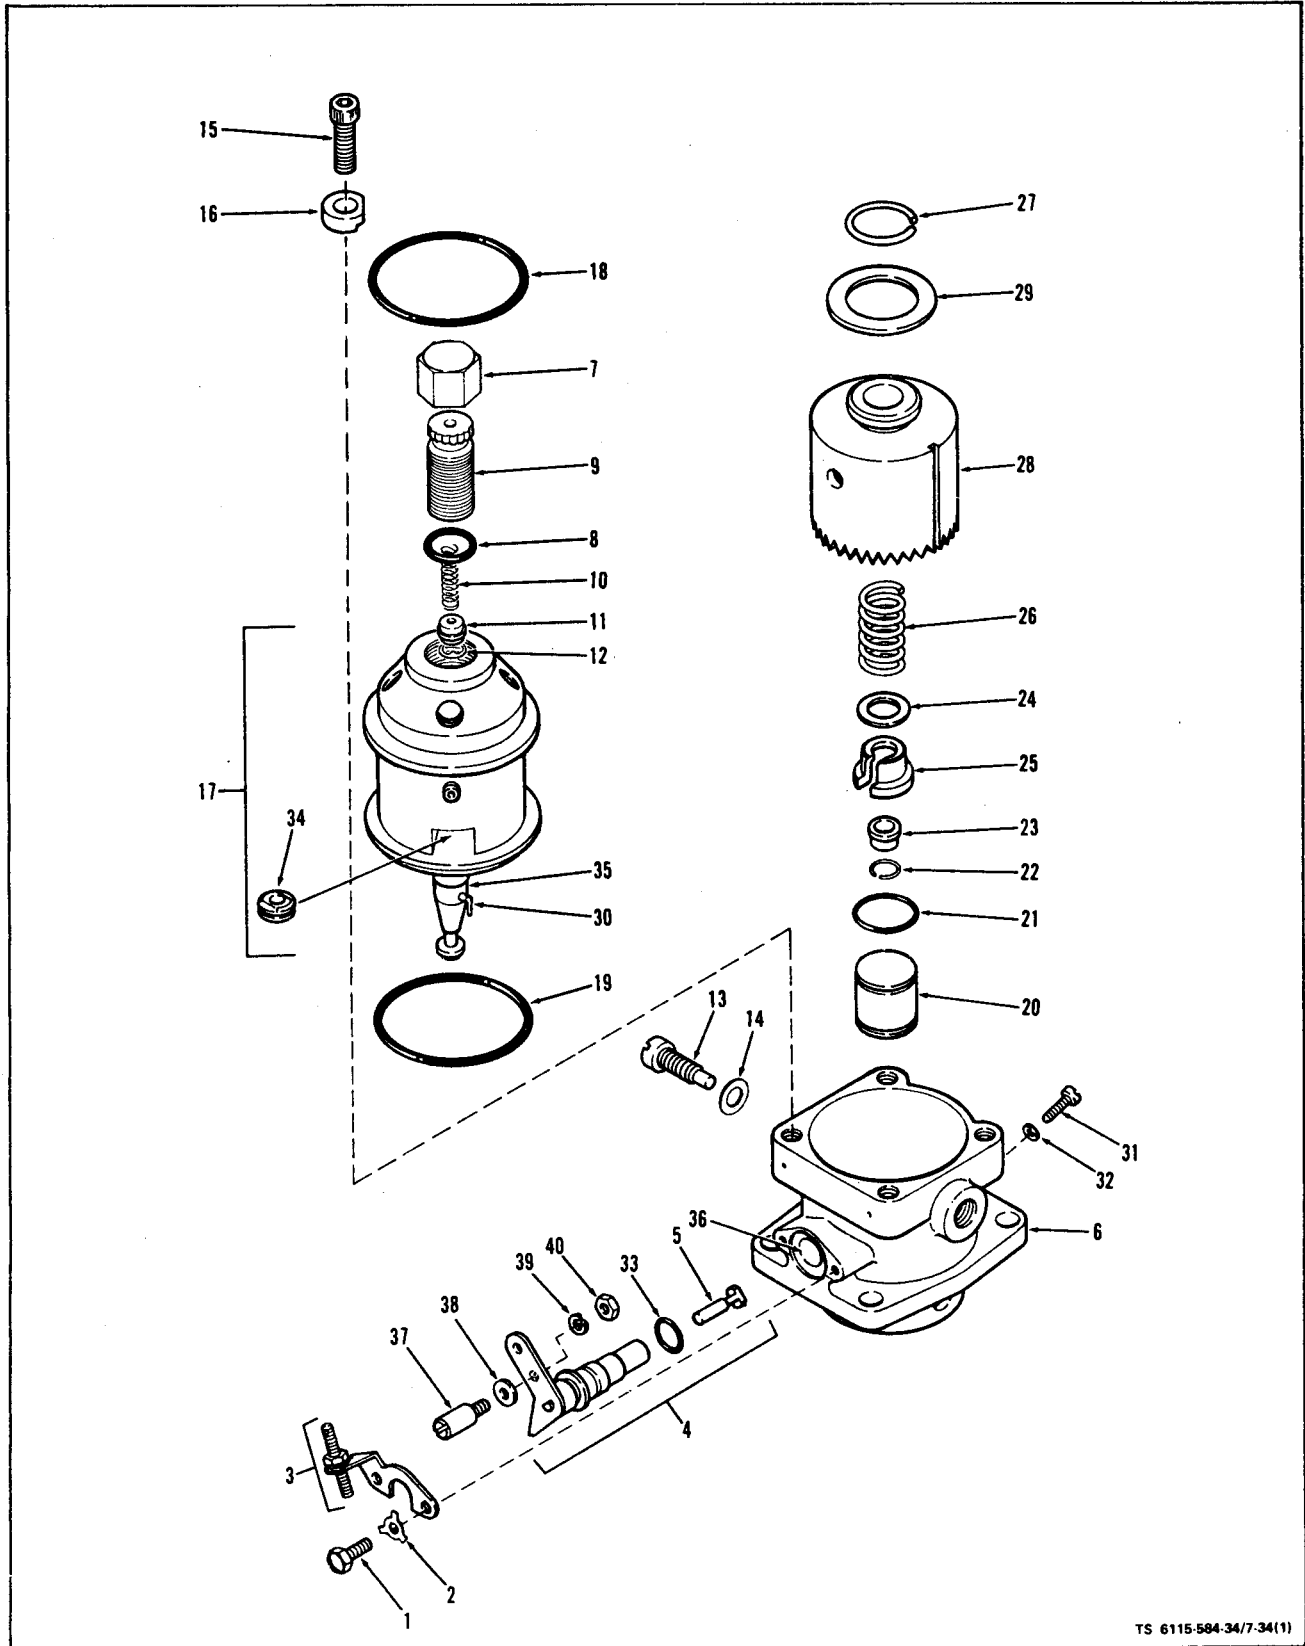

Figure 7-34. Disassembly of Fuel Injection Pump (Sheet 1 of 2)
(2) Clamp the mounting fixture in a suitable vise.
(3) Install the pump into the mounting fixture, with two 0.3125"-18 UNC-HEX head screws.
(4) Release lock tabs (2) and remove the two control unit retaining plate screws (1) and tab washers (2, figure 7-34) and the control unit retaining plate and stop assembly (3). Carefully pull the control unit assembly (4) with plunger sleeve pin (5) out of the pump housing (6). Plunger sleeve pin occasionally may have to be removed separately. Use needle nose pliers or magnetic pencil.
(5) Remove the delivery valve cap nut (7) and gasket (8).
(6) Remove the delivery valve holder (9) then lift out the delivery valve spring (10), delivery valve assembly (11) and delivery valve spacer (12).